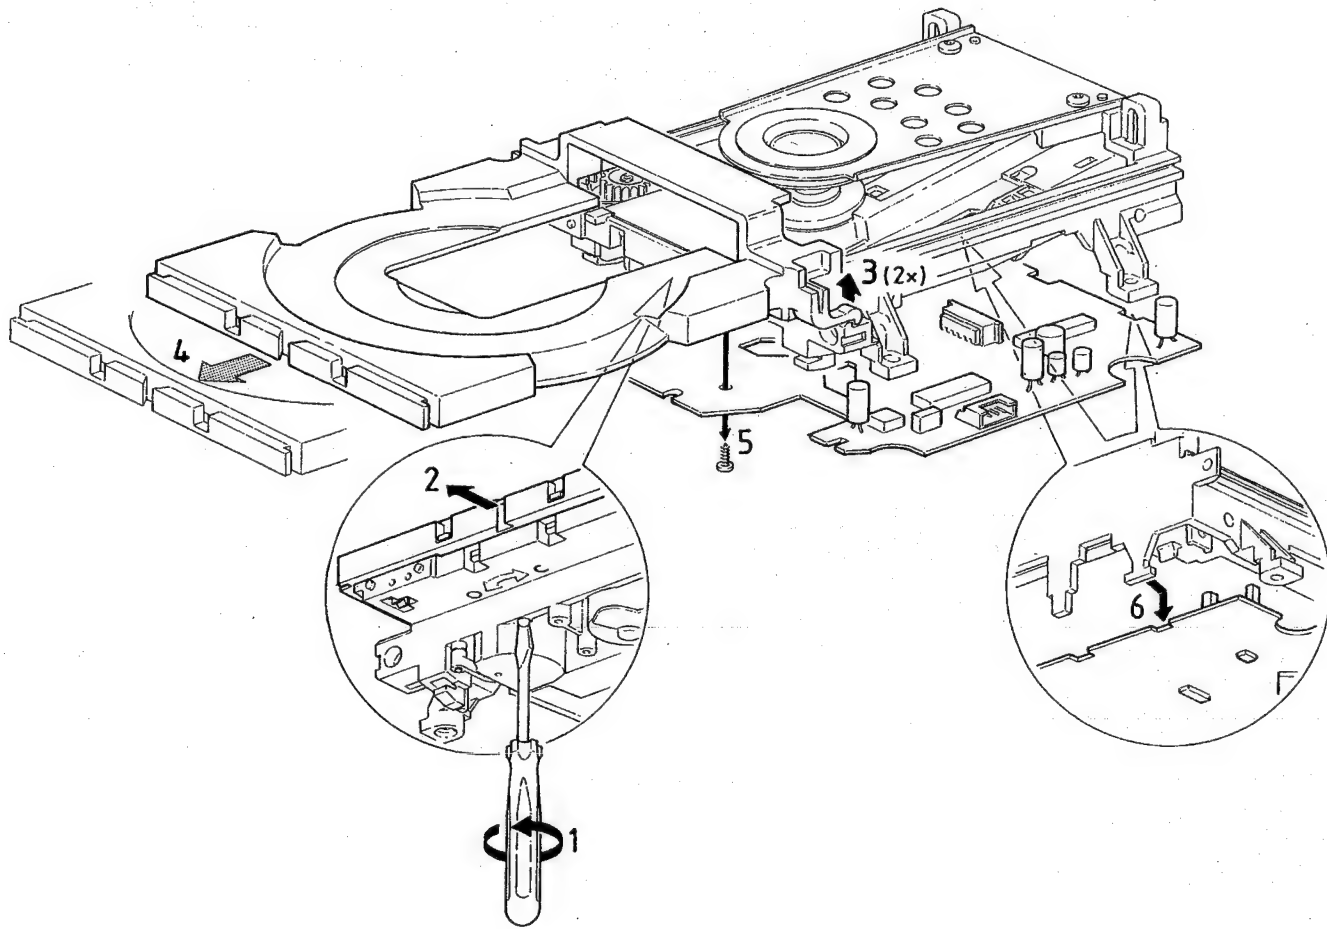

Fig. 1
- a) Press open/close button to open the tray. If the tray doesn't work, use a small screwdriver as shown in Fig.1 point 1 to move the tray outside. After the first centimetre it is possible to pull the tray out by hand.
- 1) Turn the gear wheel (b) clockwise to its endposition (Use a small screwdriver as shown in Fig. 1 point 1).